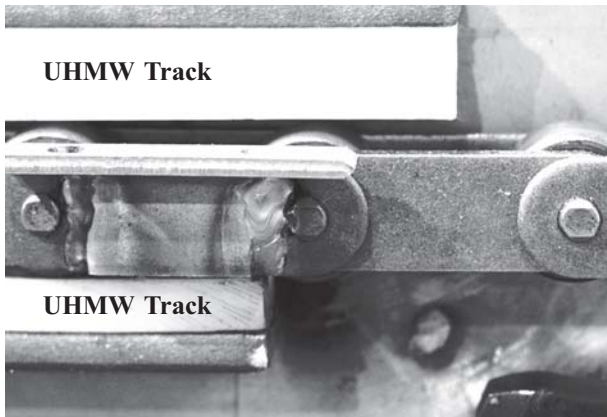

Fig. 12
3. While the covers are off check the UHMW tracks for wear and replace if necessary. See Fig. 12.